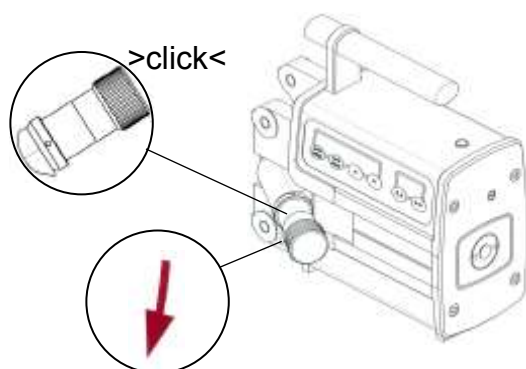

Fig. 63
9. 1 click equivale a 0.05 mm (0.002 inch). Fig. 63.